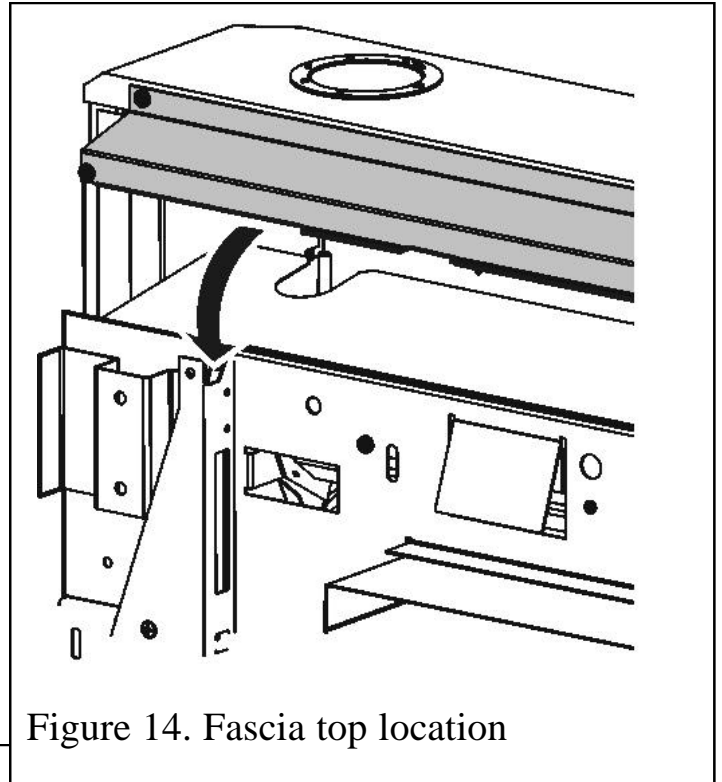

Figure 14. Fascia top location
**8.1.1** Place the fascia over the engine. Make sure that the top rear of the fascia locates fully into the 'U' shaped notch of the engine back panel (See figure 14).
**8.2.3** Locate the baffle onto the screws as in figure 14. The baffle is angled and should lean towards the rear of the fire.
- 11.1.4.* Replace in the reverse order. Make sure that the top rear of the of the fascia locates fully into the ‘U’ shaped notch of the engine back panel (See figure14). Make sure that the radiants are not dislodged when refitting the fascia.